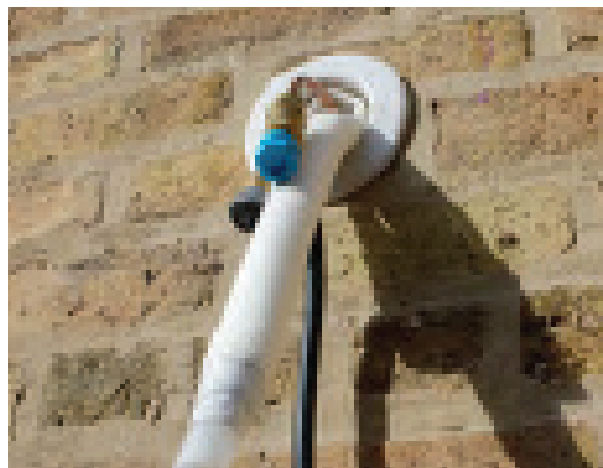

Figure 5.2
2. Slowly pass the wrapped bundle of refrigerant pipes, drain hose, and communication cable through the hole in the wall. (Figure 5.2)